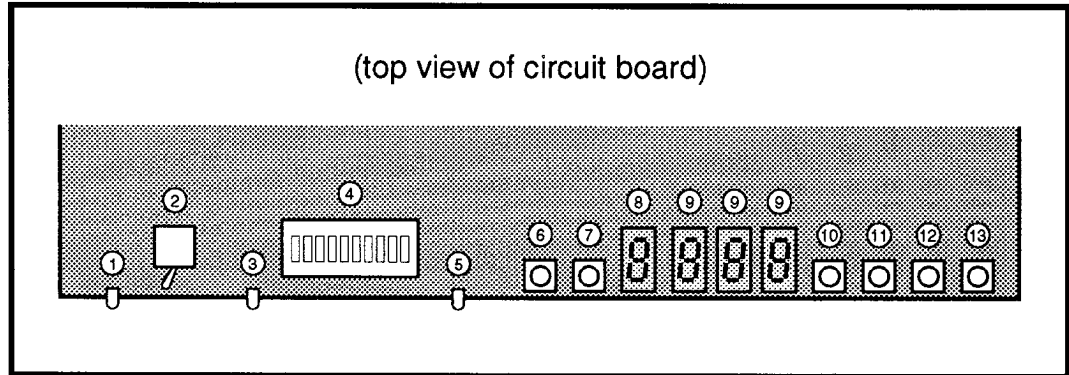

Figure 3-2. Operational controls.
The operational controls consist of the bypass toggle switch, the Operational Selection switch, six momentary switches, three LED indicator lights, and four LED displays, as shown in Figure 3-2.
The dashed paths in the menu chart are used by pressing the <Function> momentary switch. The solid paths are taken by pressing the keys indicated in brackets. The letters in parentheses indicate what the first LED display (number ⑧ in Figure 3-2) shows when that function is selected.